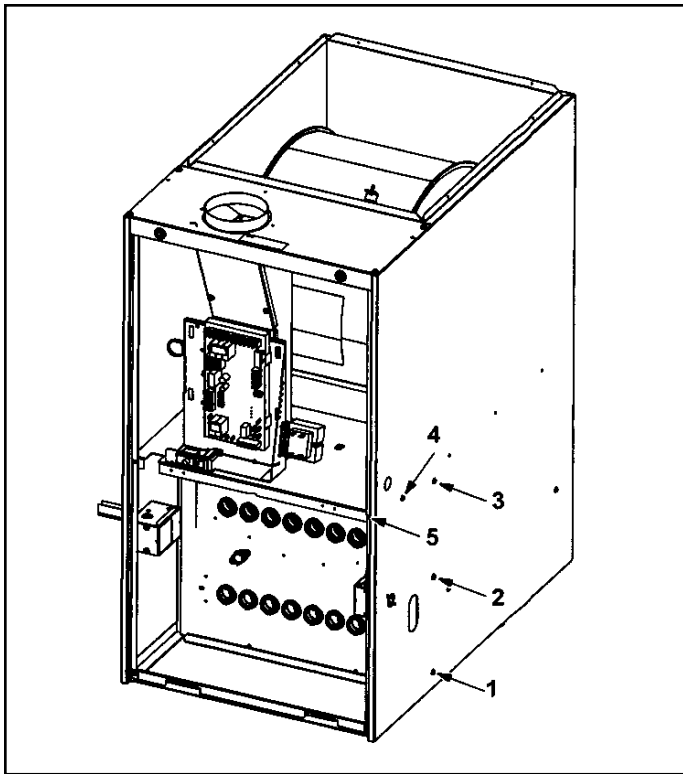

Figure 31. Remove 5 Screws if Necessary (either side of cabinet)
10. Remove heat exchanger. It may be necessary to spread cabinet side to allow more room. If so, remove five screws from the left side or right side of cabinet. See Figure 31.